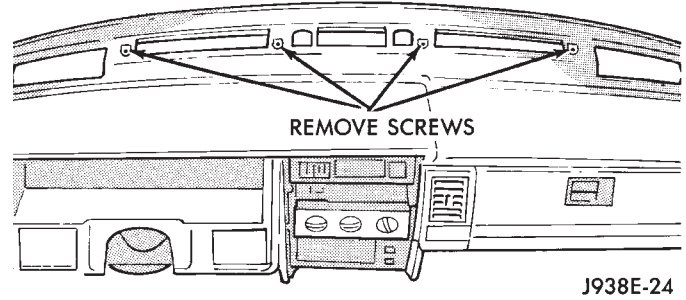

Fig. 6 Upper Dash Pad Attaching Screws
- (4) Remove center bezel.
- (5) Remove 2 screws holding dash pad located behind top of center bezel.
- (6) Gently pry defroster grille out of dash pad.
- (7) Unplug sensors (if equipped) and set defroster grille aside.
- (8) Remove 4 screws in defroster duct opening holding dash pad (Fig. 6).